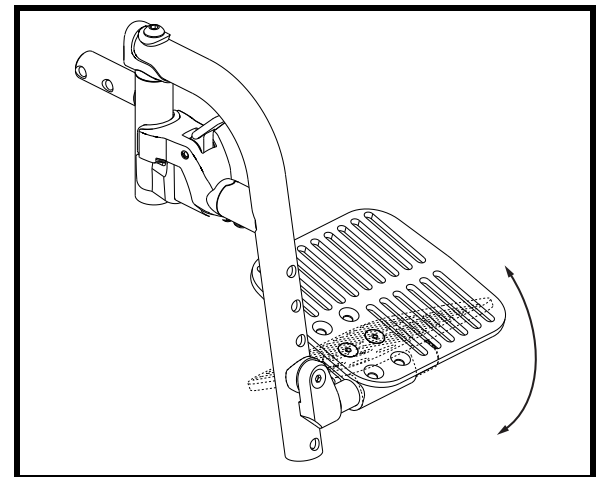

Figure 27. Foot Plate Angle Adjustment
2. Tilt the foot plate forward or back to the desired angle. See **figure 27**.